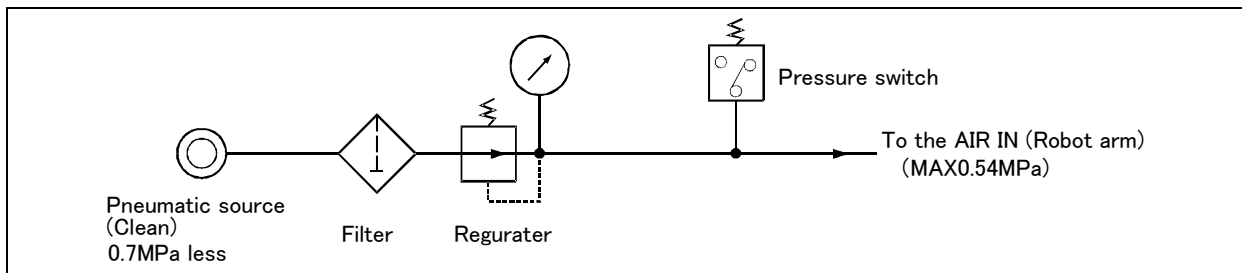

Fig.2-9 : Air supply circuit example for the hand
Fig. 2-9 shows an example of pneumatic supply circuitry for the hand.
- (1) Place diodes parallel to the solenoid coil.
- (2) When the factory pneumatic pressure drops, as a result of the hand clamp strength weakening, there can be damage to the work. To prevent it, install a pressure switch to the source of the air as shown in Fig. 2-9 and use the circuit described so that the robot stops when pressure drops. Use a hand with a spring-pressure clamp, or a mechanical lock-type hand, that can be used in cases where the pressure switch becomes damaged.
- (3) The optional hand and solenoid valve are of an oilless type. If they are used, don't use any lubricator.
- (4) Supply clean air to the vacuum generation valve when you use clean type robot.
- (5) If the air supply temperature (primary piping) used for the tool etc. is lower than ambient air temperature, the dew condensation may occur on the the coupling or the hose surface.